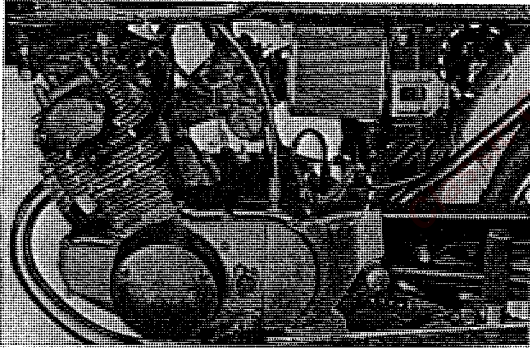

Fig. 3.3 All wiring
4. Remove the high tension terminals from the spark plug and disconnect all leads. (Refer to Fig. 3.3)